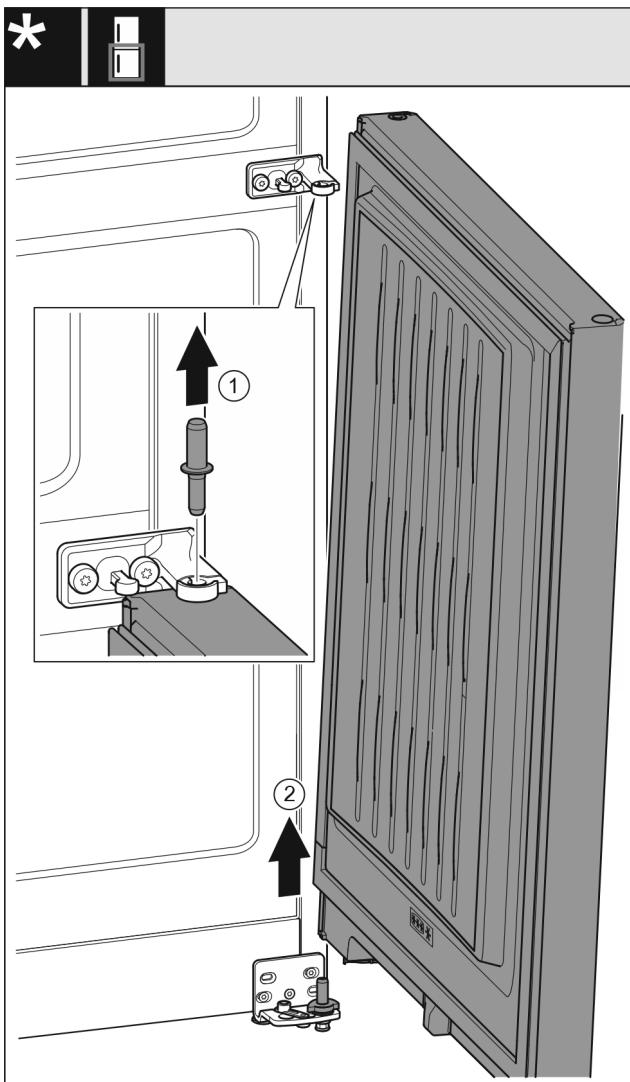

Fig. 11 Without closing damper
- Pull out the pin *Fig. 11 (1)* upward.
- Swivel out the door *Fig. 11 (2)*, pull it upward, and set it aside.